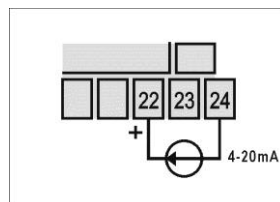

Figure 5 – Connection of 4-20 mA
- 4-20 mA: Figure 5 shows the 4-20 mA current signals wiring.